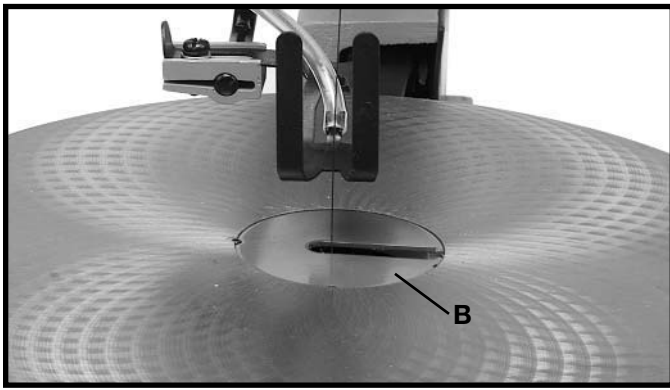

Fig. 20A
1. Turn the table insert 90 degrees to the right. **NOTE: ROTATE THE TABLE INSERT (B) FIG. 20A, TO ALLOW YOU TO TILT THE TABLE WITHOUT BENDING OR BREAKING THE BLADE.**